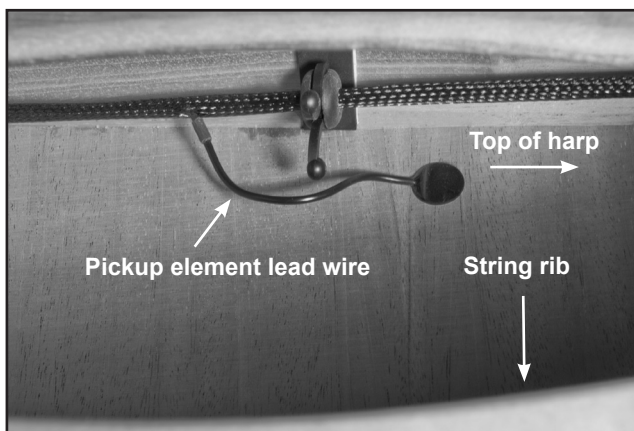

Figure 7 – Pickup Element Installation
2. Orient the harness so the pickup element lead wires point toward the string rib, away from the side of the harp (*see figure 7 on next page*).
- d. The lead wire should naturally curve away from the soundboard (see figure 7). If necessary, adjust the pickup harness in the clips to ensure that the lead wires won't touch the soundboard and cause unwanted vibration.
- e. For all Dusty Strings harp models, the pickup element lead wire will bend upward, toward the top of the harp (see figure 7).